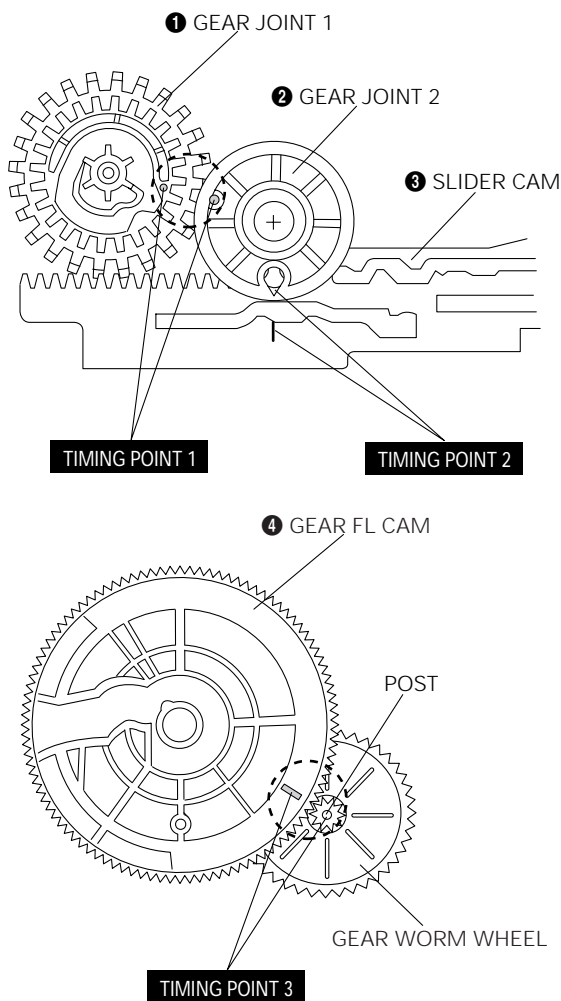

Fig. 4-10 Assembly of Gear FL Cam, Gear Joint 1, 2
1. Be sure to align dot mark of Gear Joint 1 ❶ with dot mark of Gear Joint 2 ❷ as shown Fig. 4-10 (Refer to Timing Point 1), confirm the Timing Point 2 of the Gear Joint 2 ❷ and Slider Cam ❸.
2. Align the Gear FL Cam ❹ with the Gear Worm Wheel Post as shown detail drawing. (Refer to Timing Point 3)